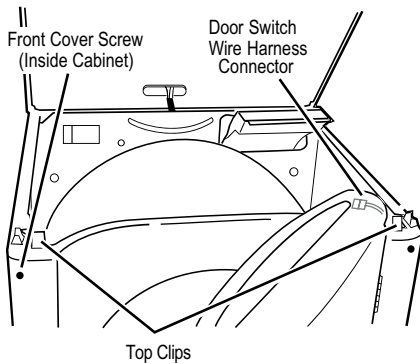

Figure 13. Slowly rotate top backwards and support.
5. Push on the retaining clips located under top of dryer on the right and left side using a flat object such as a putty knife. See Figure 13.
7. Disconnect the door switch wire harness located on the right side. See Figure 13.